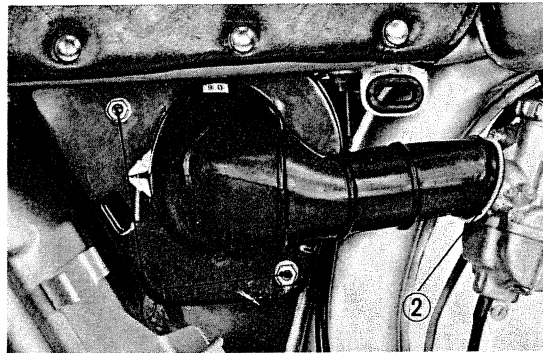

Fig. 17 ① Mounting nut ② Air cleaner connecting clamp
- 2) Loosen air cleaner connecting clamp and the two mounting nuts to remove the air cleaner element. (Fig. 17)